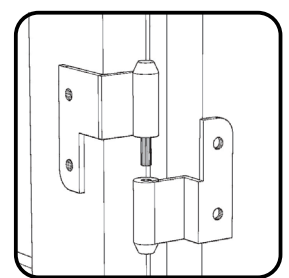

Figure 8
Attach Doors (Q) and (R) by sliding door lift hinges into side panel lift hinges. (See Figure 8)